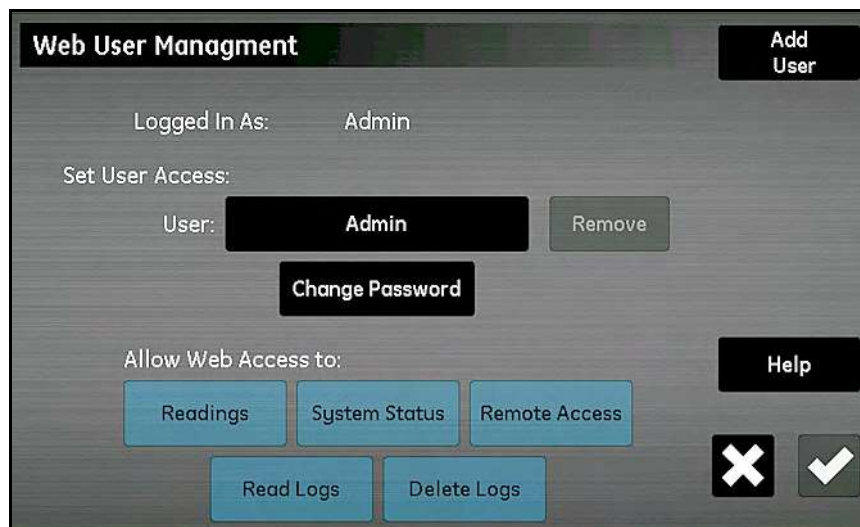

Figure 63: Web User Management Screen
Enter your password and tap the **Log In** button. On a successful login, the *Web User Management* screen shown in *Figure 63* below is opened.
The **Operator** password should be changed at the earliest opportunity. The steps for changing the **Operator** password are the same as for changing the **Admin** password (see previous section). Select the **Operator** account from the *Web User Management* screen (see *Figure 63 on page 72*), then enter and confirm the new password.
4. Tap the **Log In** button to open the *Remote User Management* screen (see *Figure 63 on page 72*).